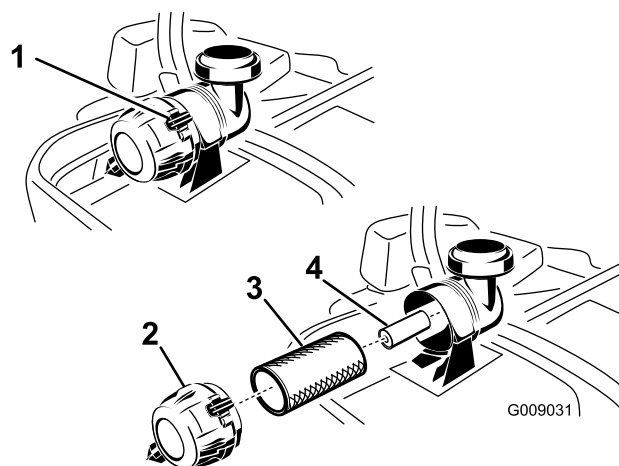

Figure 52
3. Push down to release the retaining clamps on the air cleaner, and pull the air-cleaner cover off the air-cleaner body (Figure 52).
5. Gently slide the primary filter out of the air-cleaner body (Figure 52). Avoid knocking the filter into the side of the body.
1. Do not clean the paper filter, replace it (Figure 52).
2. If the secondary filter is being replaced, carefully slide it into the filter body (Figure 52).
3. Carefully slide the primary filter over the secondary filter (Figure 52).
5. Install the air-cleaner cover with the breather cap down, and rotate so that the retaining clamps lock the cover in place (Figure 52).